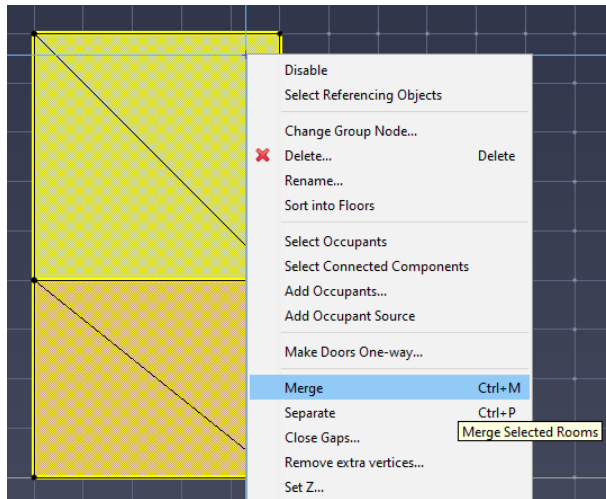

Figure 26. Two rooms to Merge
2. Select **Merge** from either the **Model** menu or the right-click menu (Figure 26)